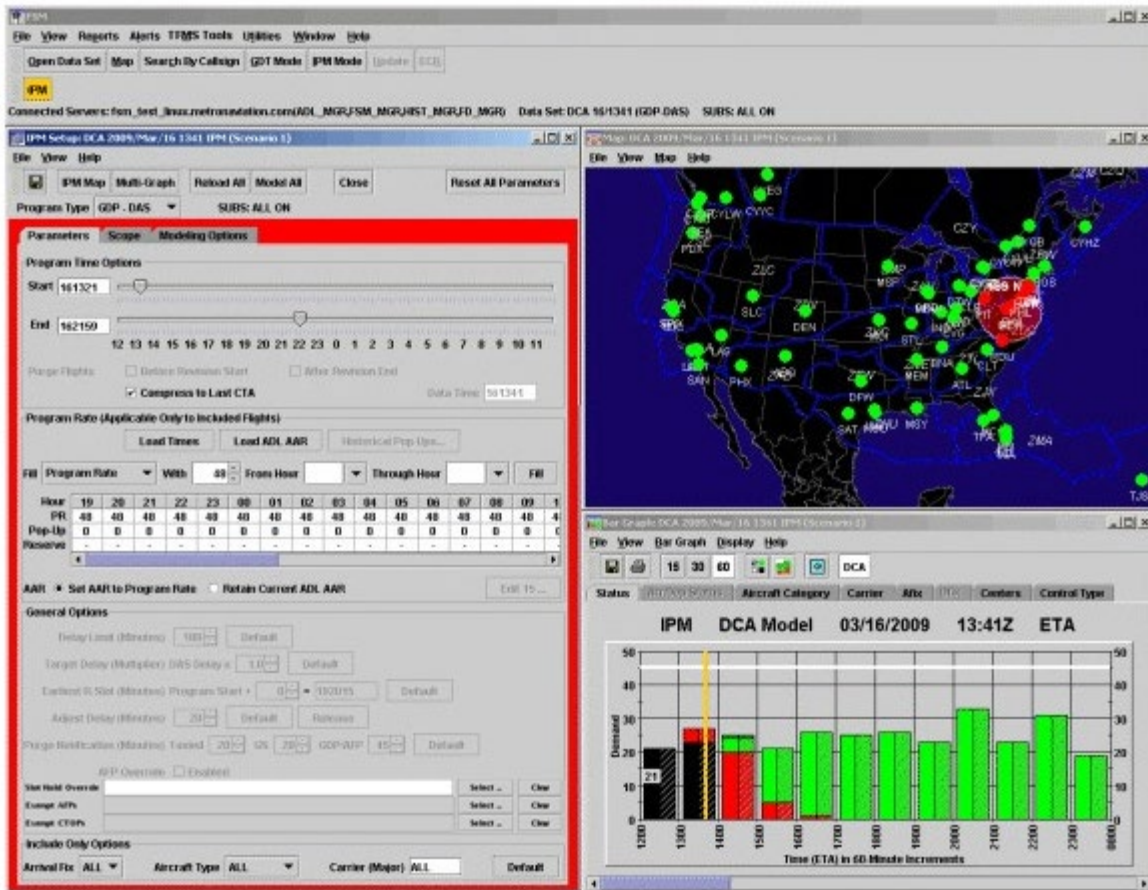

Figure 10-3: IPM Setup Component
**Note:** The IPM Setup (see Figure 10-3) component is very similar to GDT Setup.